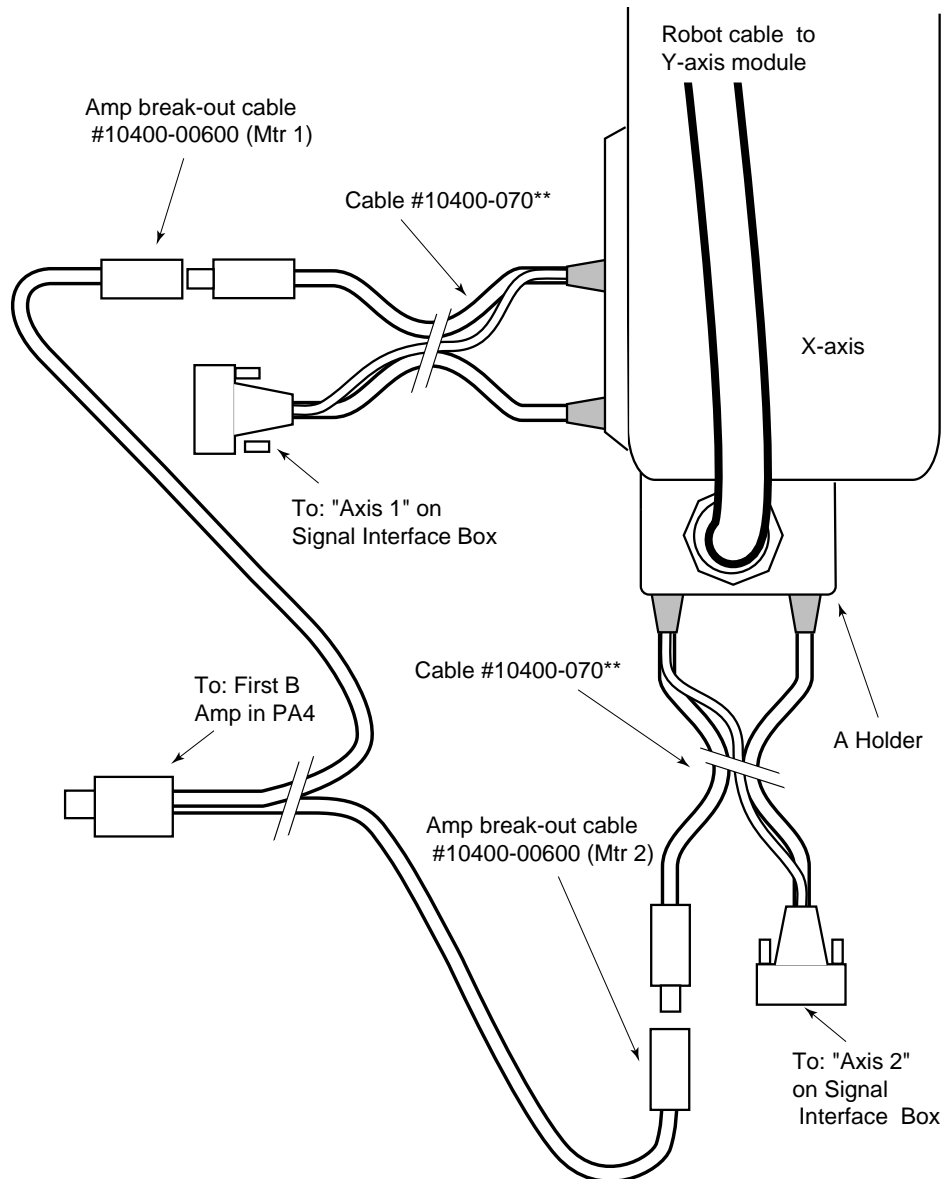

Figure 4-32. Connecting to an Adept MV Controller
- a. Connect the two barrel ends of the cable to the X-axis module as shown in Figure 4-32. These connectors have different pin sizes and cannot be installed incorrectly.
- b. Attach the A holder end of the robot cable to the motor end face of the X-axis module as shown in Figure 4-32 (refer to Section 4.3 for holder mounting).
- d. Connect the two barrel ends of the controller cable to the Z-axis robot cable holder on the X-axis module as shown in Figure 4-32. These connectors have different pin sizes and cannot be installed incorrectly. The other ends connect to the controller connections marked "2-CN6 MOTOR 2" and "2-CN5 SENSOR 2".